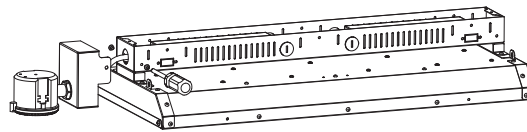

Figure10
Step2. Knock out the side cover, mount the sensor on the side, do wiring accofing to instruction on sensor (Figure 10).Step3. Fix the driver cover plate back in place (Figure 11).